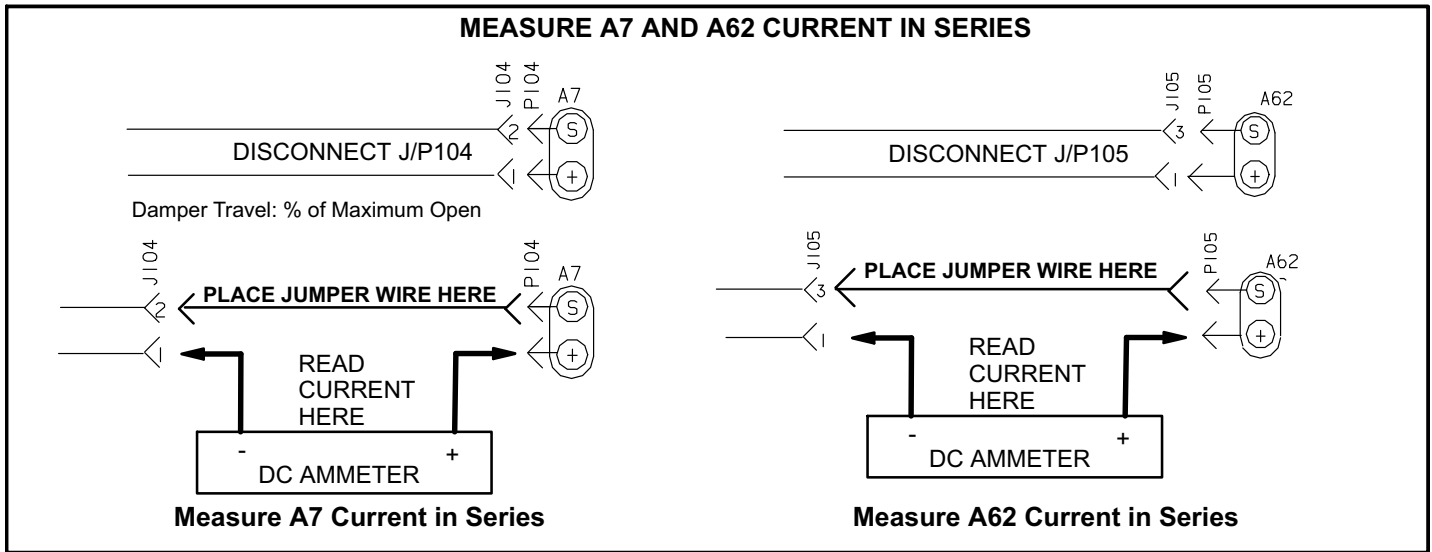

FIGURE 9
- A** Connect a direct current ammeter as shown in figure 9 to measure current output of A7 or A62.